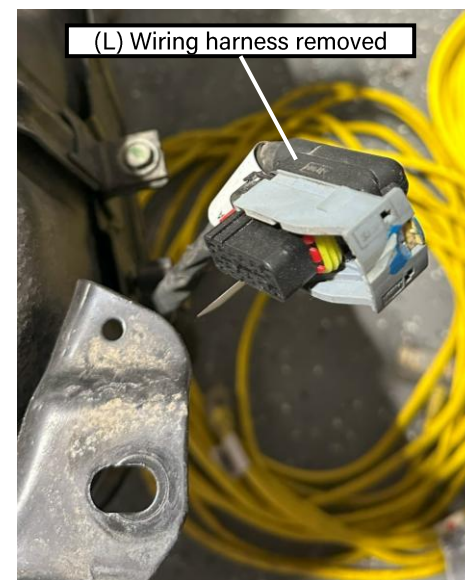

Figure 40: Final wiring harness
- ❑ (L) Disconnect the final wiring harness closest to the filler tube (Figure 40)